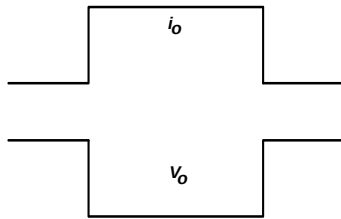
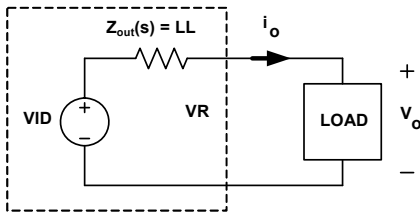

FIGURE 23. DESIRED LOAD TRANSIENT RESPONSE WAVEFORMS
FIGURE 29. VOLTAGE REGULATOR EQUIVALENT CIRCUIT
Assuming the compensator design is correct, Figure 23 shows the expected load transient response waveforms if C_N is correctly selected. When the load current I_{CORE} has a square change, the output voltage V_{CORE} also has a square response.
Figure 23 shows the desired load transient response waveforms. Figure 29 shows the equivalent circuit of a voltage regulator (VR) with the droop function. A VR is equivalent to a voltage source (= VID) and output impedance $Z_{\text{out}}(s)$. If $Z_{\text{out}}(s)$ is equal to the load-line slope LL, i.e., a constant output impedance, then in the entire frequency range, V_o will have a square response when I_o has a square change.